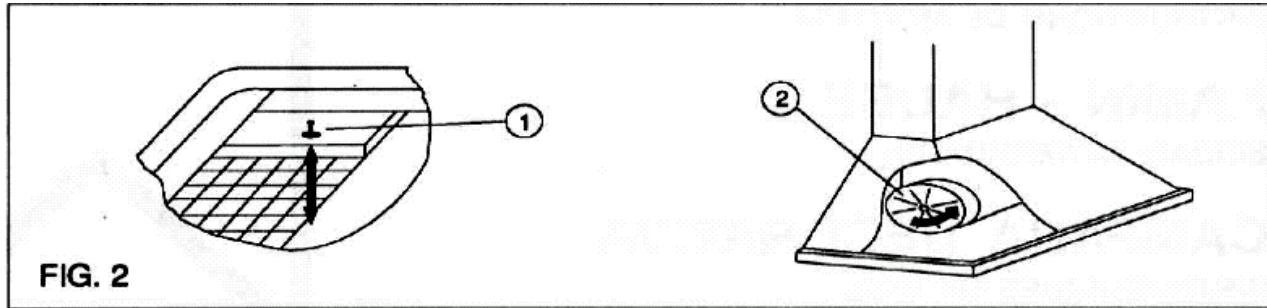

FIG. 2
- 1) Press the handle of the metal grease filter towards the rear part of the unit until it is released from the front housing, and remove it by pressing downwards (Fig. 2 - above).**